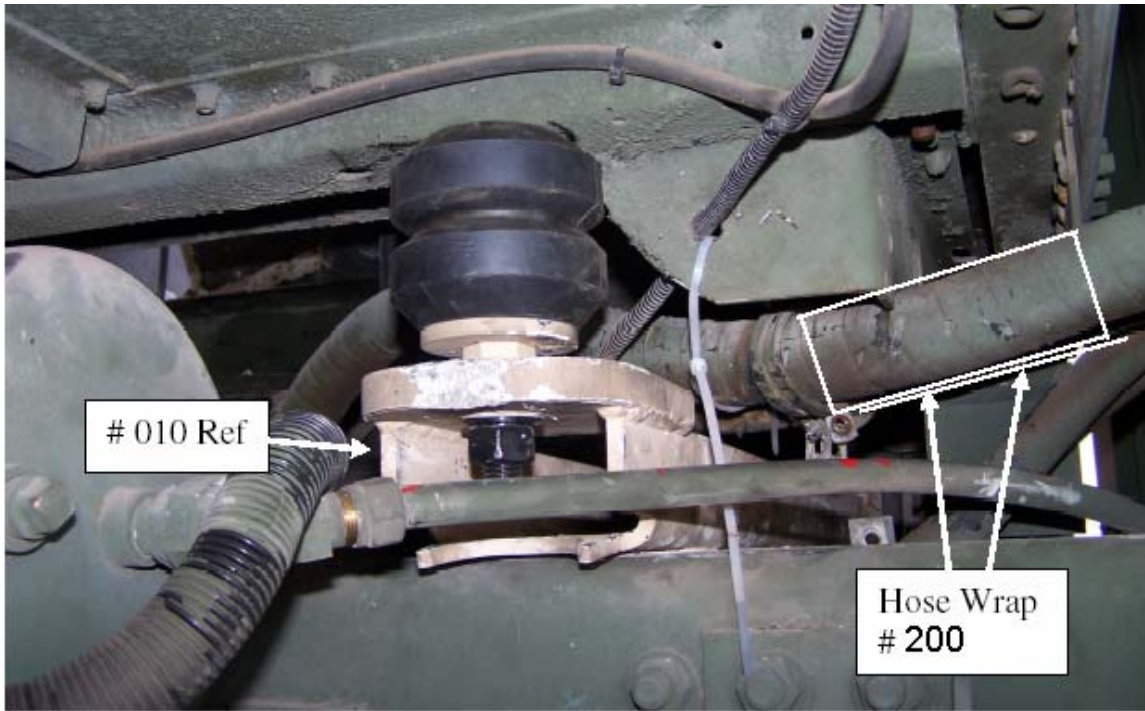

Figure 7-3. Hose Wrap Location.
4. Install 8” to 9” of protective hose wrap part # 200 to each hose in the area indicated in Figure 7-3. The wrap should start just aft of the P-clips.